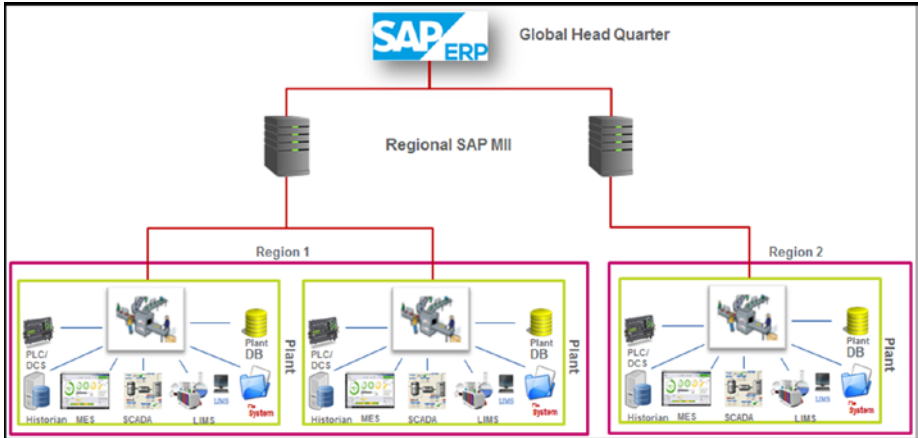

Figure 1-5. SAP MII regional server landscape
- *Regional installation:* There is one SAP MII server for each region, and one region can consist of multiple manufacturing plants. A regional SAP MII can connect to the global ERP. This architecture is the one most commonly used. See Figure 1-5.